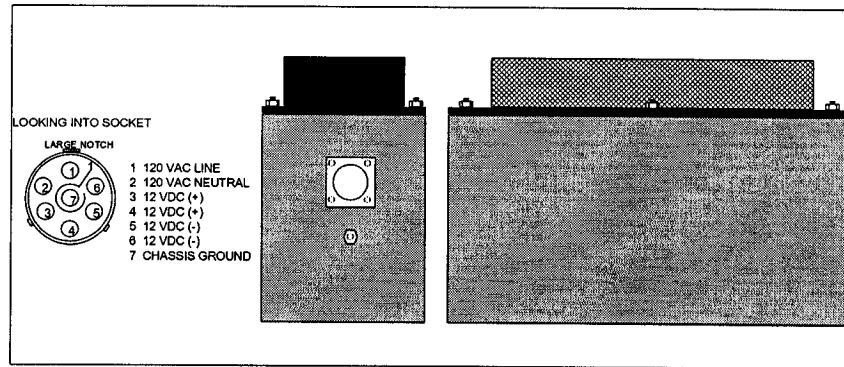

Figure 6-2
- b. Input requirements are 95-130VAC (120VAC nominal) with ground through a disconnect switch. The connectors must be procured locally and made up at a facility capable of soldering the pin connections. The input connector is a MS3106R-16S-8S with MS3057-8B cable clamp. Pin connections are: Pin A - 120VAC Hot, Pin B - 120VAC - Neutral, Pin C - Chassis Ground, as shown in Figure 6-2. Pins D & E are not used. Use 14/3 SO cable for input to the supply.
- a. The power supply is a hermetically sealed unit with an external radiator (Figure 6-2). Installation in a vented enclosure is suggested as the radiator becomes quite hot to the touch.
to the 12VDC power cable (due to loose or frayed strands, etc.). Pin connections are detailed in Figure 6-2. Due to the design of the connector, only 16AWG wire will fit the pin connections. Both 12 volt (+) and (-) pins should be used to reduce wire and terminal heating. Both pairs of 16 AWG wires should combined just past the rubber boot and stepped up to the appropriate sized conductor for powering the load.